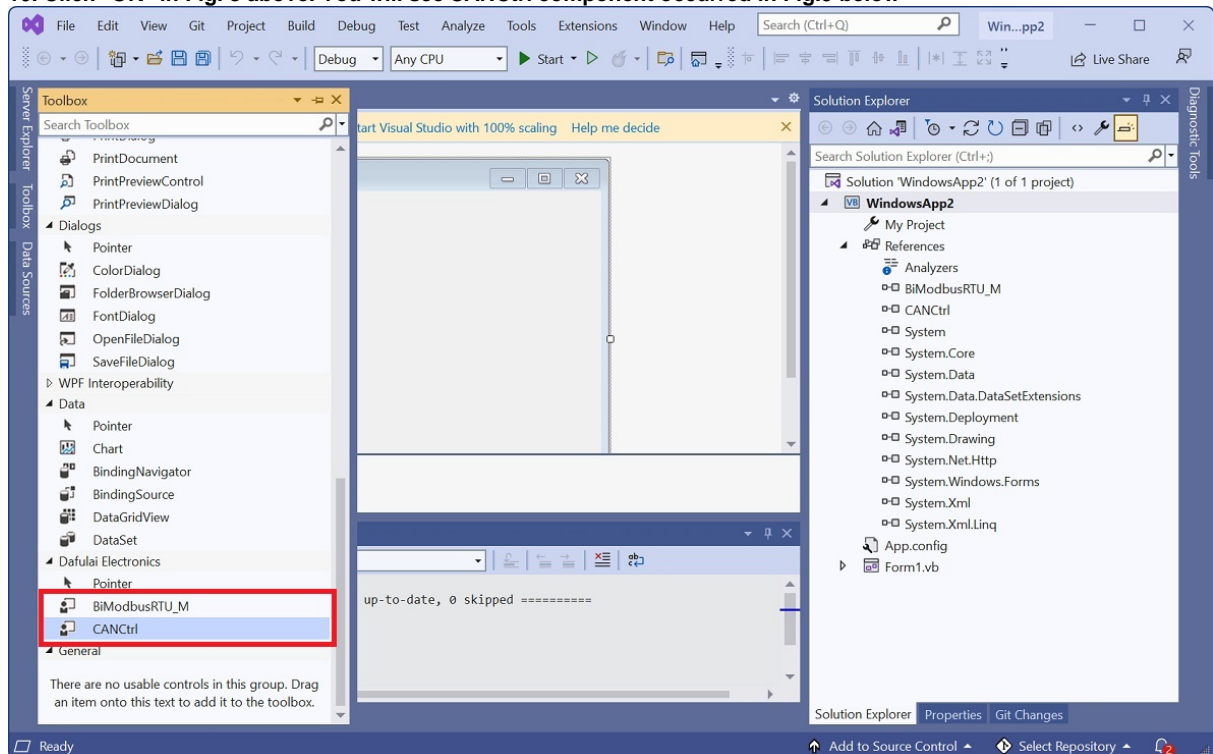

Fig.9 CANCtrl Component
10. Click "OK" in Fig. 8 above. You will see CANCtrl component occurred in Fig.9 below
11. Double click "CANCtrl" in Fig. 9 above. You will add component "CANCtrl" to your project in Fig.10 below.